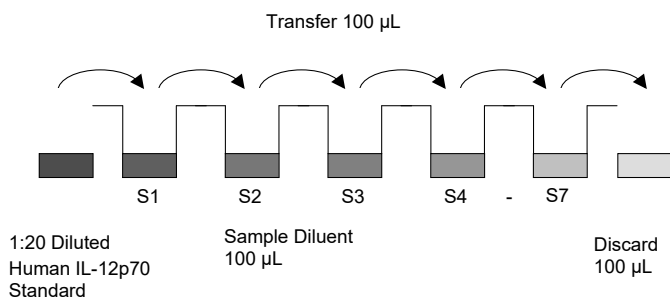

Fig. 9 Standard dilutions in microwell plate
- c. Mix the contents of wells A1 and A2 by repeated aspiration and ejection (concentration of standard 1, S1 = 10.00 pg/mL), then transfer 100 μ L to wells B1 and B2, respectively (see Figure 9). Do not scratch the inner surface of the microwells.